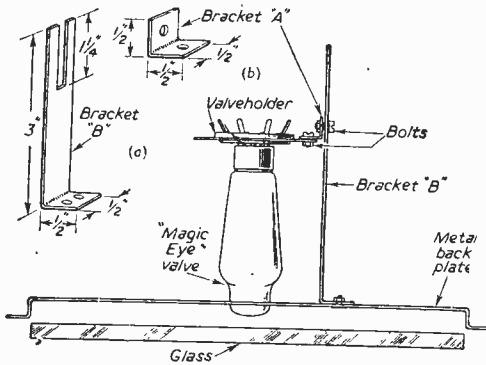

Fig. 3.—Details of the mounting of the magic eye tuning indicator.
Behind the glass was mounted a metal back plate and this was drilled so that the end of the magic eye could protrude through it (see Fig 3). A short length of metal was then formed into the shape in Fig. 3(a), and another small bracket (b) was made to hold the valveholder. The slot in (B) was $\frac{1}{4}$ inch wide and was made so that the valveholder could be slid backwards and forwards and thus enable the magic eye to be fitted in the best position.
ONE or two readers have asked for details of the type of correction which is provided in the design of this particular amplifier. The L.P. correction will suit any type of *uncorrected* pick-up crystal, balanced armature or moving-coil. The only proviso (see first paragraph on page 101 of the February issue) is that for full amplifier output the pick-up must have an output on average recordings of more than .06 volts RMS, and if more than .5 volt must be suitably attenuated to below that figure. If the pick-up is already corrected for L.P. (see the maker's literature), then it is permissible to omit C10, R14, C1, S2 and S3 from Fig. 3 of the February issue, or leave them in against future requirements and use the 78 switch position for both 78 and L.P.